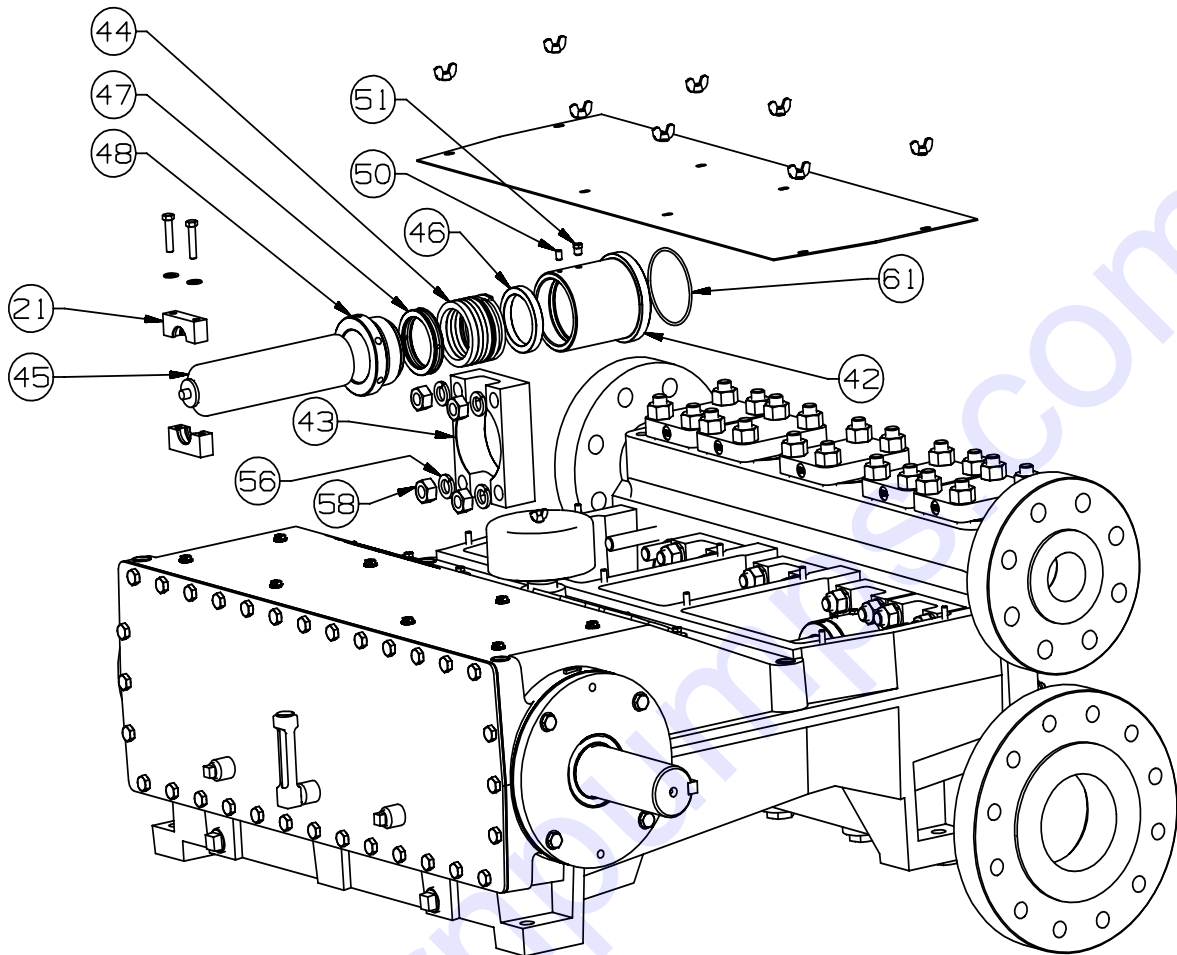

Figure 5: Replacing Plunger Packing
2. Unbolt the plunger clamps (21) and remove them from the plunger (45) and extension rod (20). Remove the nuts (58) holding the stuffing box clamps (43) to the fluid cylinder (39) and remove the stuffing box clamps (43). See Figure 5.
3. Rotate the crankshaft by hand until one of the extension rod (20) is fully retracted from the plunger (45). Slide the plunger and stuffing box out of the cradle of the pump as a single unit. Repeat this procedure for the other four plunger stuffing box assemblies. See Figure 5.
4. Loosen the set screw (50) locking the threads on the adjusting nut (48) and unscrew the adjusting nut. Use caution because the plunger packing (44) is sometimes spring loaded. Pull the plunger (45) from the assembly and remove the plunger packing (44). See Figure 5.